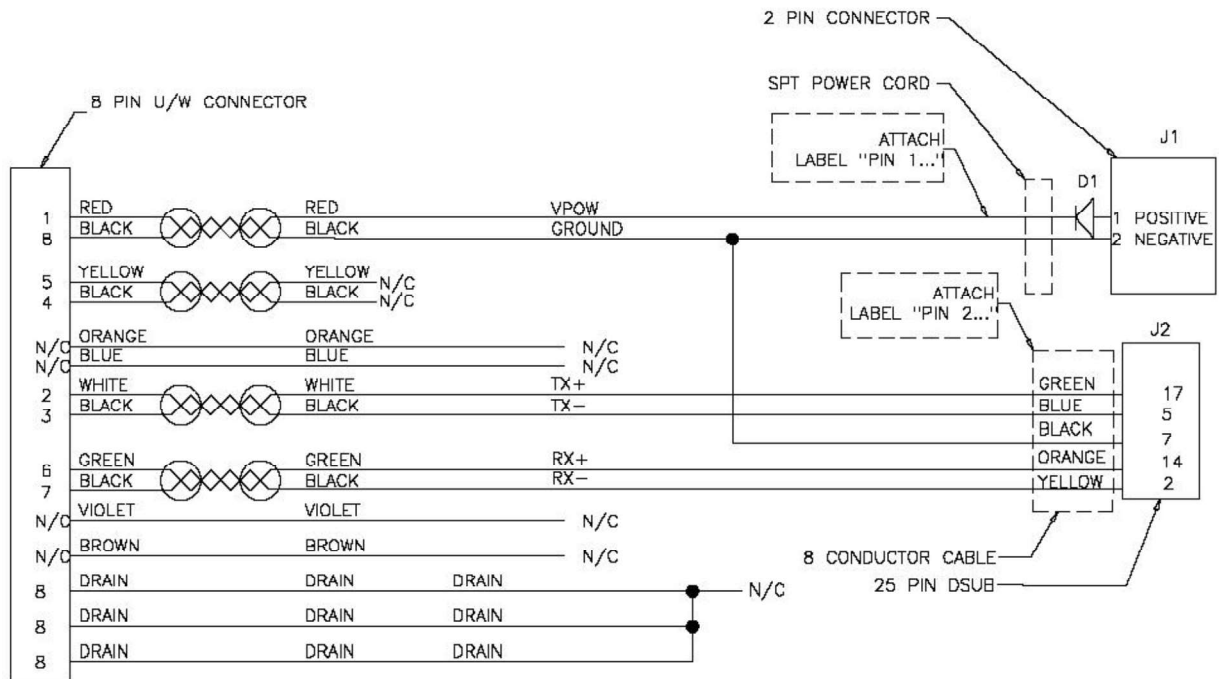

Figure 7-4. SL500 / SL1500 / SL3000 Power and Communications Cable wiring diagram (RS-422)
- A DB25 connector for RS-422 serial communication. **Figure 7-4** shows the wiring of this connector.
- A DB25 connector for RS-422 serial communication. Figure 7-4 shows the wiring of this connector.